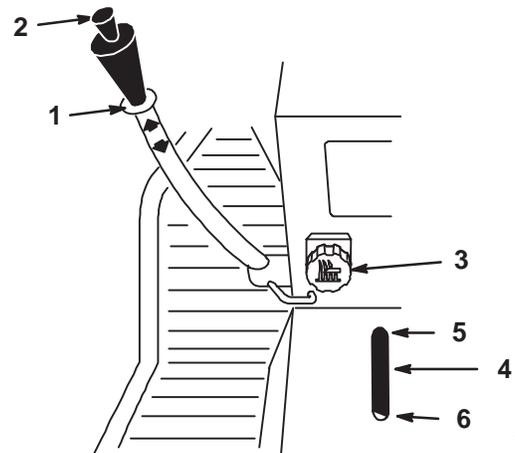

Figure 14
The attachment lift lever (Fig. 14) is used to raise and lower various attachments.
The Dial-A-Height control (Fig. 14) is used to limit the downward travel of the attachment. The Dial-A-Height knob is rotated to change the location of this stop, up or down.
1. Raise the attachment lift lever; refer to Raising Attachments. In the raised position the Dial-A-Height knob (Fig. 14) can be rotated to change the stop location. Turn clockwise to raise and counterclockwise to lower the height of the attachment.
2. The Dial-A-Height indicator (Fig. 14) will show the change, high to low, in attachment lift height as adjustment is made.